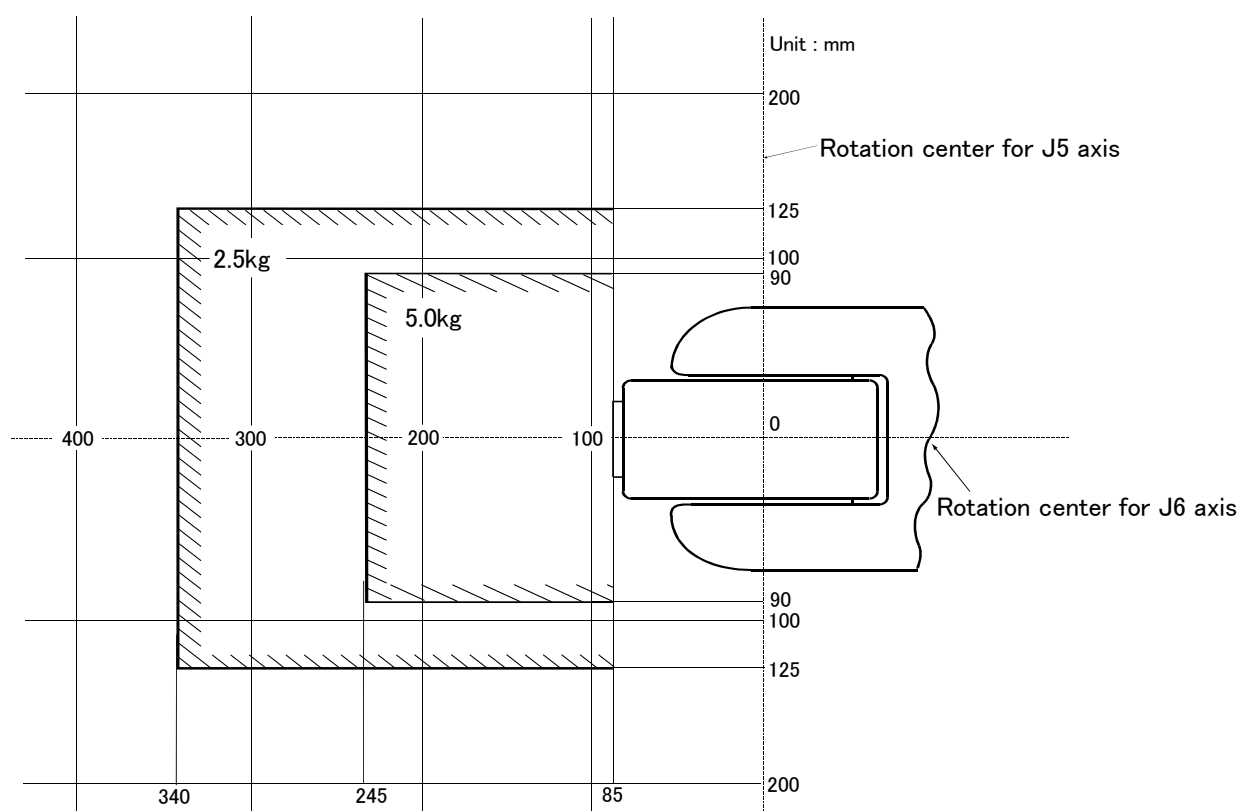

Fig.2-1 : Position of center of gravity for loads (for loads with comparatively small volume):RV-6SQ/6SQL Series
- (1) The tooling should have the value less or equal than the smaller of the tolerable inertia and the tolerable moment found in Page 7, "Table 2-1 : Standard specifications of robot"
- (2) Fig. 2-1 shows the distribution dimensions for the center of gravity in the case where the volume of the load is relatively small. Use this figure as a reference when designing the tooling.
- (3) When the load is not mass, but force, you should design the tooling so that it does not exceed the value for allowable moment described in Page 7, "Table 2-1 : Standard specifications of robot"